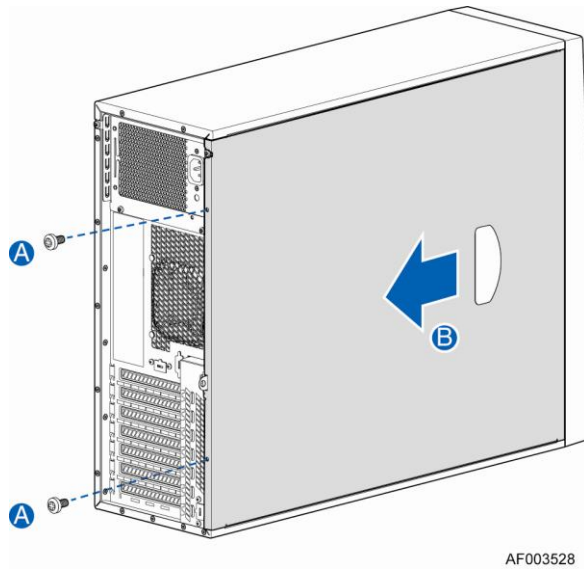

Figure 1. Removing the Chassis Cover
1. Remove the screws (see letter **A** in Figure 1).
2. Slide the side cover back (see letter **B** in Figure 1) and lift the cover outward to remove it.